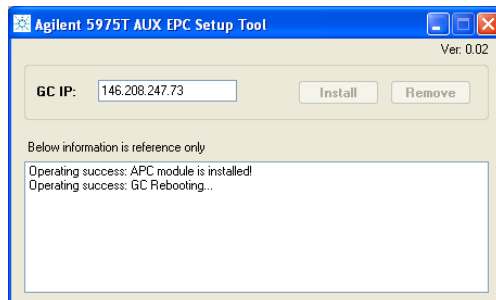

Figure 13 Install/remove the Aux EPC
8. Input IP address and then click install to configure the Aux EPC. And click remove can uninstall the Aux EPC from the instrument. (See Figure 13)